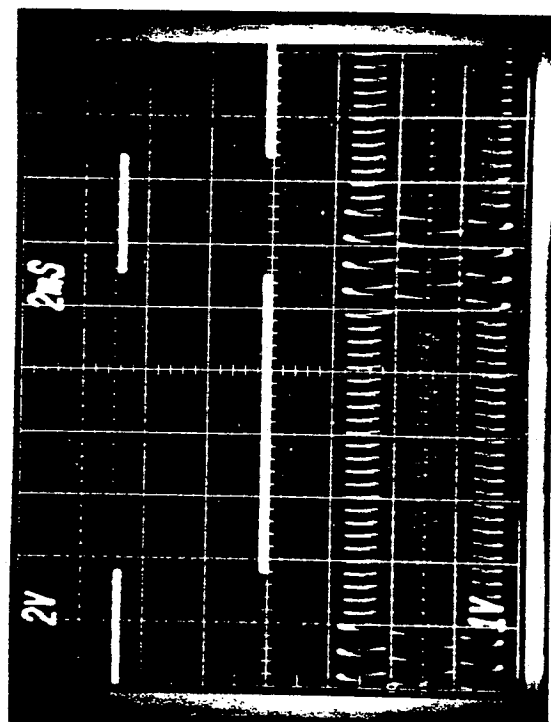

Figure 5-15
2. Check " $\overline{\text{SI}}$ " and "SDI"; the relationship between these waveforms should be approximately as shown in Figure 5-15.